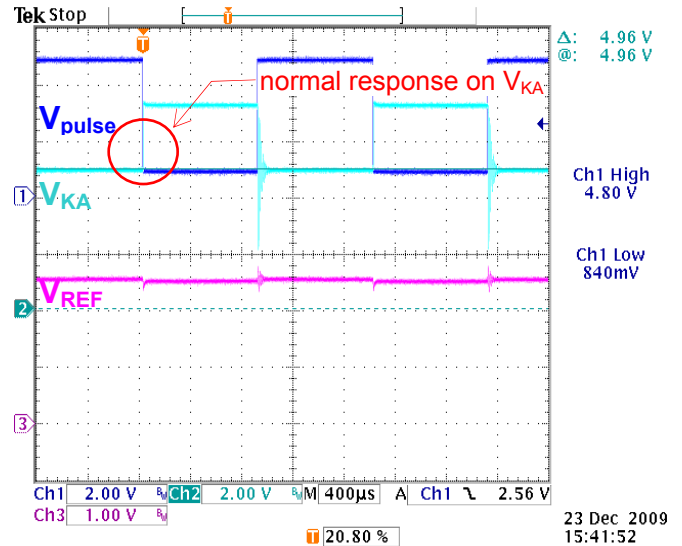

Figure 5: REF pin is added with 1nF
- 3.3.1 Add cap 1nF to REF pin for filtering. (Figure 5). The transient voltage coupled to REF pin can be greatly reduced by the low pass filtering.